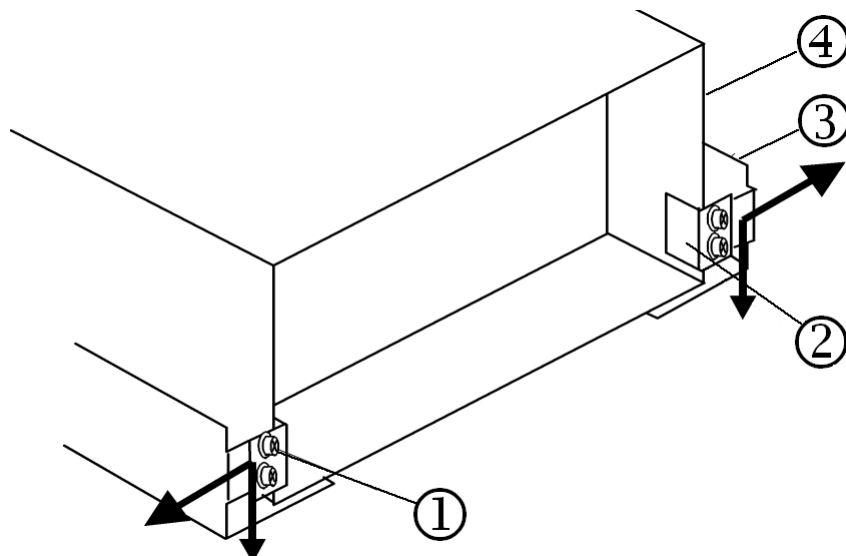

Figure 5-26: Securing Rear of the Array
①	Array	③	Mounting Slot	⑤	Rack Frame
②	Mounting Screw, M5-10	④	Nut	⑥	Rail
2. As shown in Figure 5-26, fasten the rear side of the array to the rack rails.